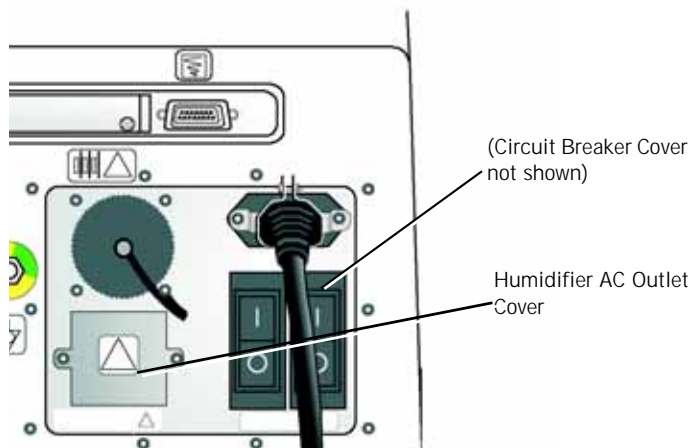

Figure 6-3: Humidifier AC Outlet Cover
1. Remove the cover of the humidifier AC power outlet on the back of the ventilator (Figure 6-3).